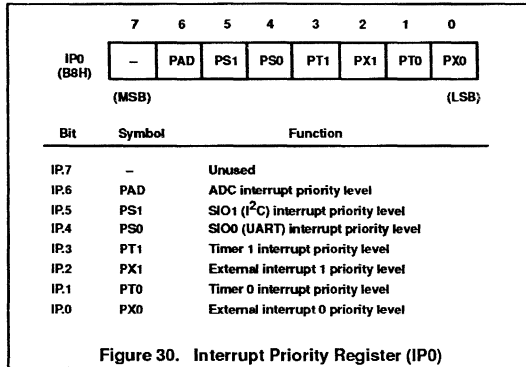

Figure 30. Interrupt Priority Register (IP0)
**Interrupt Priority Structure:** Each interrupt source can be assigned one of two priority levels. Interrupt priority levels are defined by the interrupt priority special function registers IP0 and IP1. IP0 and IP1 are described in Figures 30 and 31.